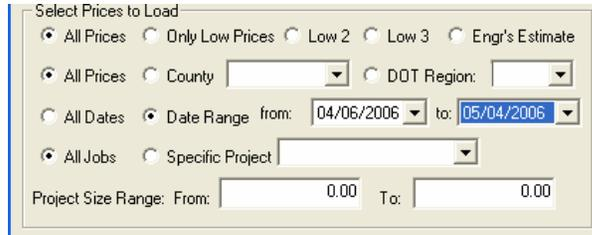

Figure 2.16
This option allows you to load prices and calculate averages from a specific letting or range of lettings. There are three types of date ranges you can enter: (1) all dates, (2) specific dates (i.e. starting and ending dates) as shown in Figure 2.16 or (3) pre-defined date ranges (i.e. last 6 months, last year, etc.) as shown in figure 2.17